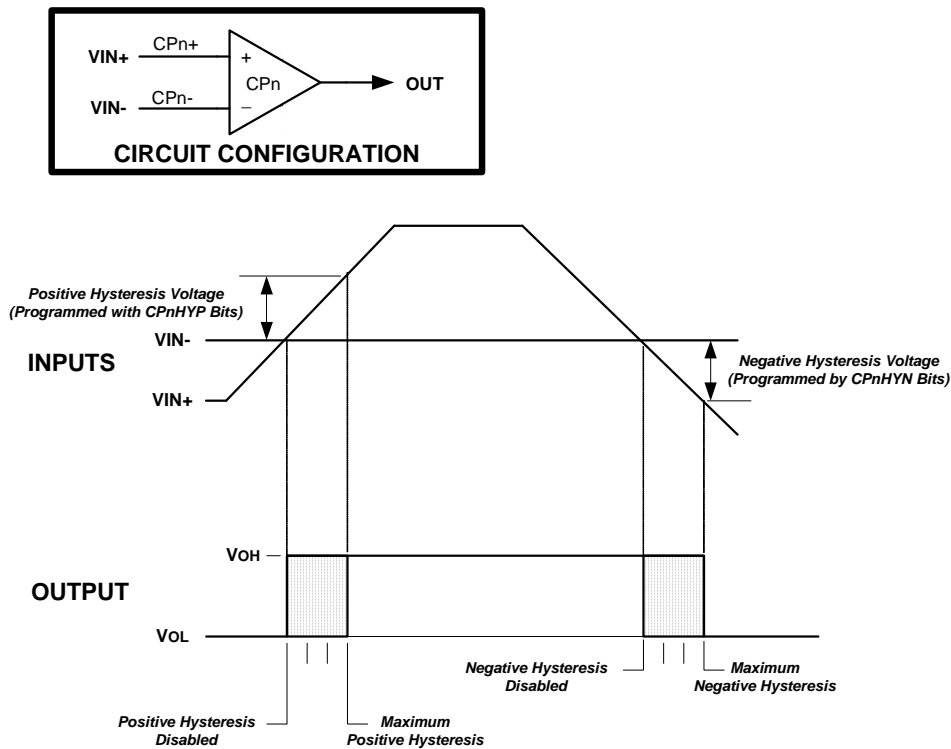

**Figure 8.2. Comparator1 Functional Block Diagram**
C8051F380/1/2/3/4/5/6/7/C devices include two on-chip programmable voltage comparators: Comparator0 is shown in Figure 8.1, Comparator1 is shown in Figure 8.2. The two comparators operate identically with the following exceptions: (1) Their input selections differ as described in Section “8.1. Comparator Multiplexers” on page 71; (2) Comparator0 can be used as a reset source.